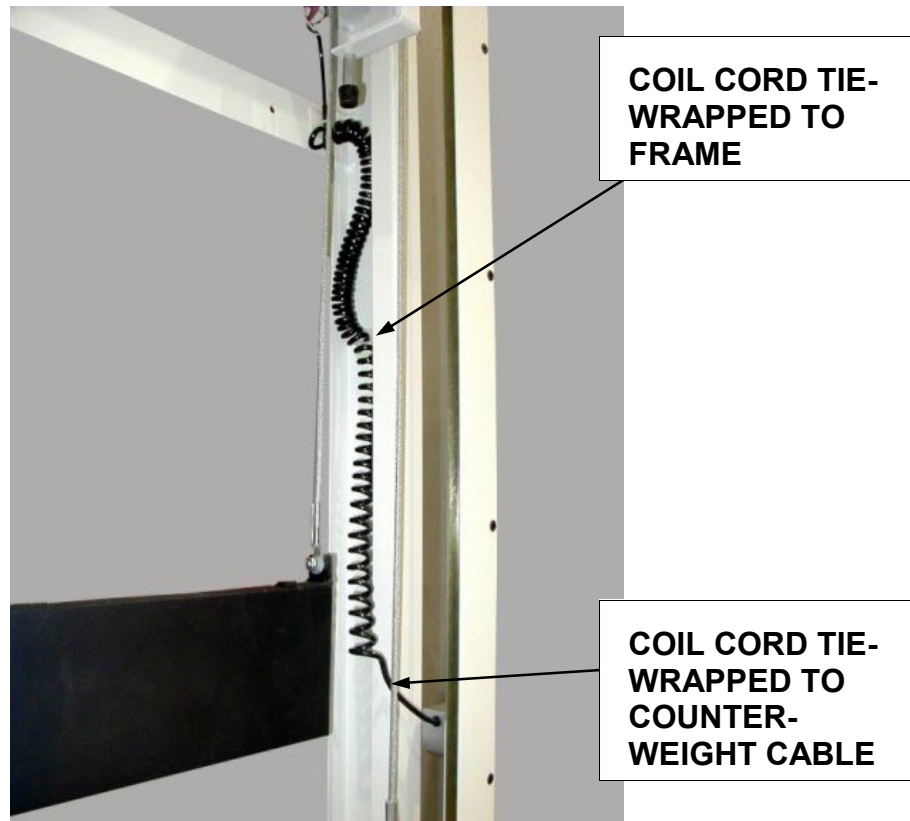

Figure 4. Coil Cord Cable Routing (Right Hand Load Systems)
5. On systems configured for right-hand film loading, tie-wrap coil cord cable as shown in Figure 4.